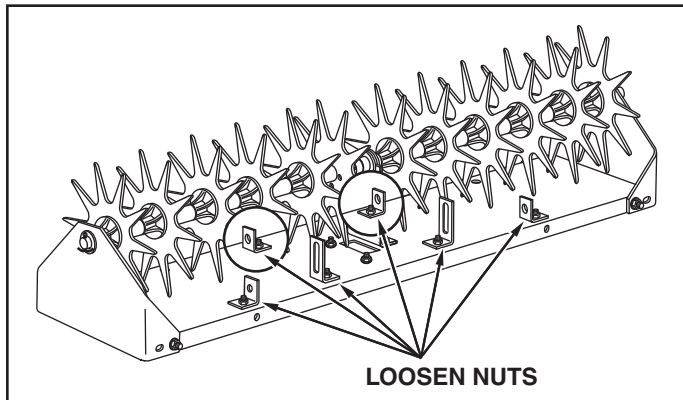

FIGURE 1 FRONT VIEW
1. Loosen the nuts fastening the four angle brackets and the two hitch arm mount brackets to the tray. See figure 1.